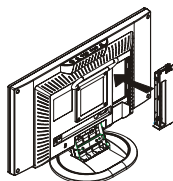

Figure 1-3
2. To connect the TV tuner. (See figure 1-3)